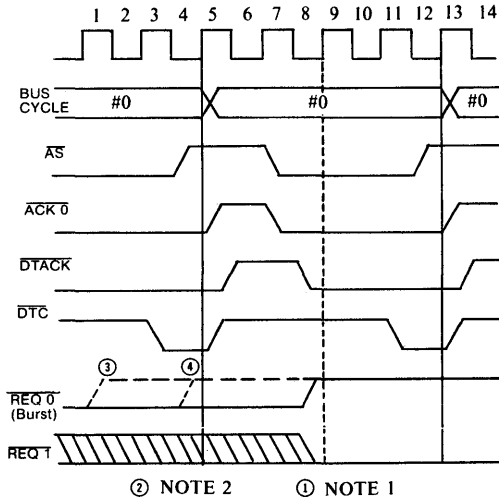

Figure 48. Extra Data Transfer in the Burst Mode\*
When switching the channel of operation using the burst request signals, negate the REQ signal within the period bounded by (3) and (4) in Figure 48. (DTC falling edge may be used for obtaining the timing for the negation of REQ.)